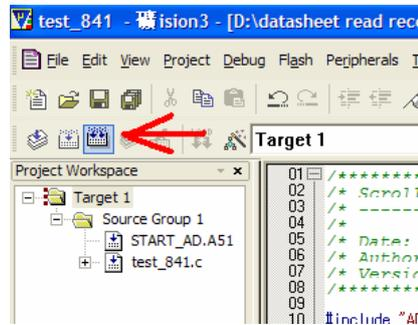

Figure 3
3. Translate and Build the target as Figure 3 shown.